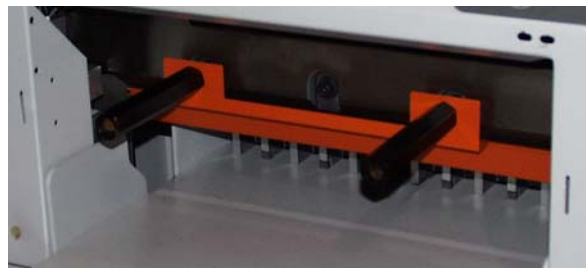

Figure 15
3. Remove the knife bolts from the two slotted knife bar holes and replace with the knife lifter assembly (Figure 15). Tighten the lifters to hold the knife in place, and then remove the remaining knife bolts.